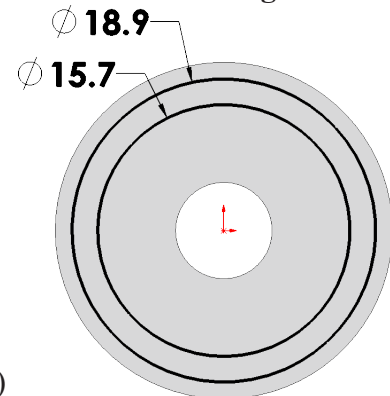

Fig. 6
Step 4. Sketch **two circles** at the Origin , **Fig. 6**.
Step 6. Dimension **diameters 18.9 and 15.7**, **Fig. 6**.